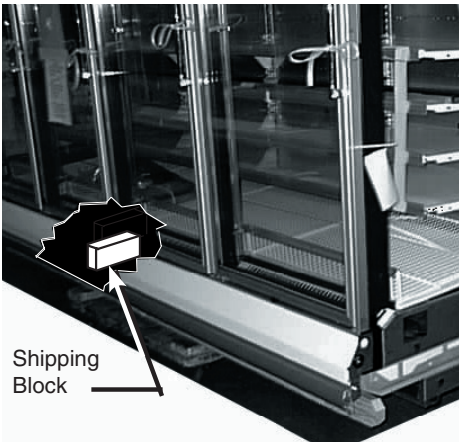

Figure 2. Remove Shipping Block
- 2 Locate and remove the shipping block in the center of the heat exchanger in the interior bottom of each case, see Figure 2.